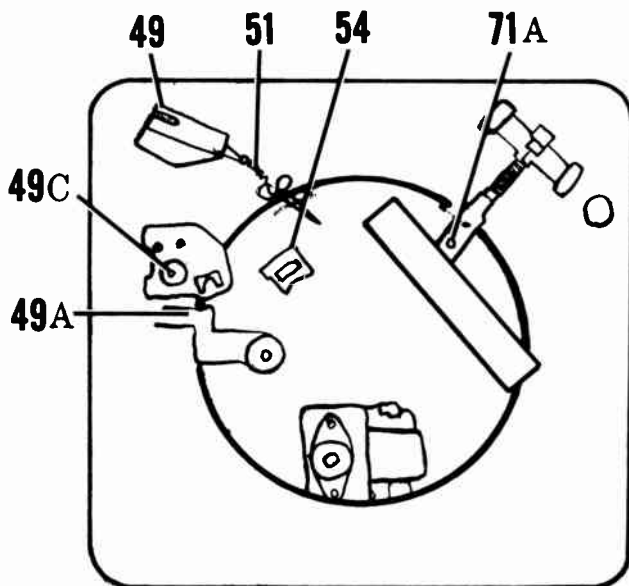

Figure P7.
7. Record Push OFF: (a) move OFF-ON-REJ to rej position and rotate turntable by hand 2 revolutions; (b) loosen bar locking screws 71A, figure P7; (c) squeeze push off ears of bars toward each other until slide plate 27N extends beyond lips of record shelf about 1/32".